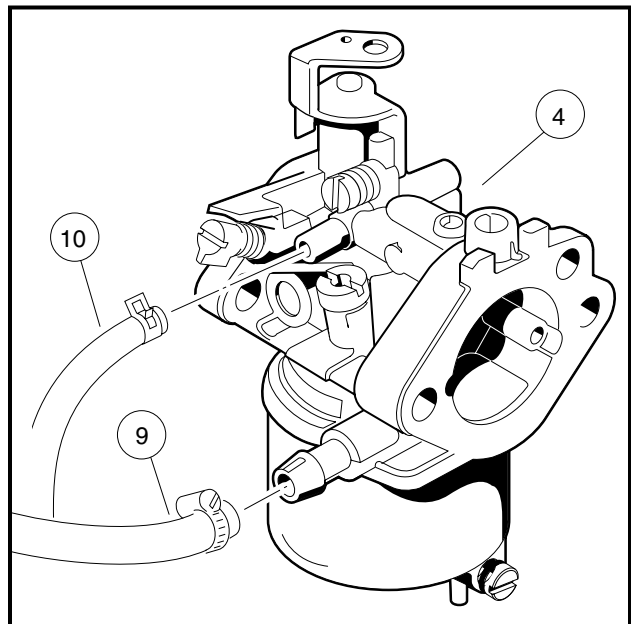

Figure 13-7 Carburetor, Fuel and Vent Line
5. Disconnect the fuel line (9) and vent tube (10) from the carburetor (4) (**Figure 13-7, Page 13-9**)